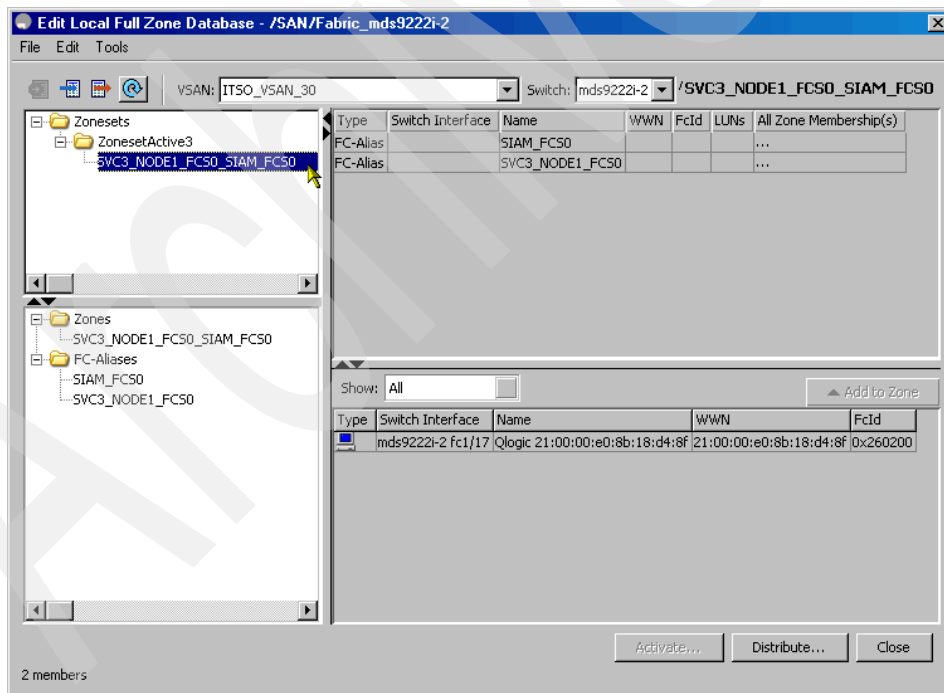

Figure 6-68 Listing members of a newly created zoneset
4. Verify that the zoneset contains the member SVC3_NODE1_FCS0_SIAM_FCS0 that we inserted, as shown in Figure 6-68.